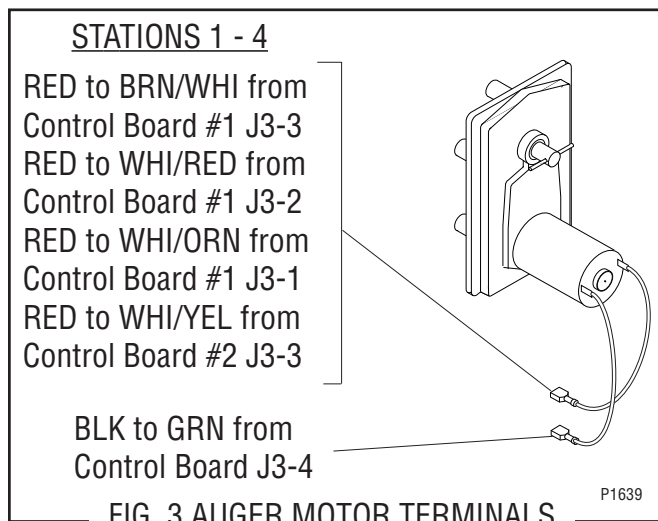

FIG. 3 AUGER MOTOR TERMINALS
3. Remove the four #8-32 screws, located inside the dispenser housing on the lower right front of the auger motor mounting panel (19), securing auger motor mounting bracket (16) and auger motor (17) to the rear of the auger motor mounting panel (19).
5. Remove auger motor mounting bracket (16), auger motor (17) and dust seal (18) as an assembly.
6. Remove dust seal (18) from auger motor (17).
7. Disconnect the wires from the auger motor (17).
8. Remove the four #8-32 screws securing the auger motor (17) to the auger motor mounting bracket (16).
9. Remove auger motor (17) and discard.
10. Using four #8-32 screws install new auger motor (17) on mounting bracket (16).
11. Install dust seal (18) on auger motor shaft and align notch in seal with motor casting.
13. Refer to Fig. 3 when reconnecting wires.
14. Using four #8-32 locking screws install auger motor, dust seal and mounting bracket to the rear of the auger motor mounting panel (19).
15. Install hopper assy (15).